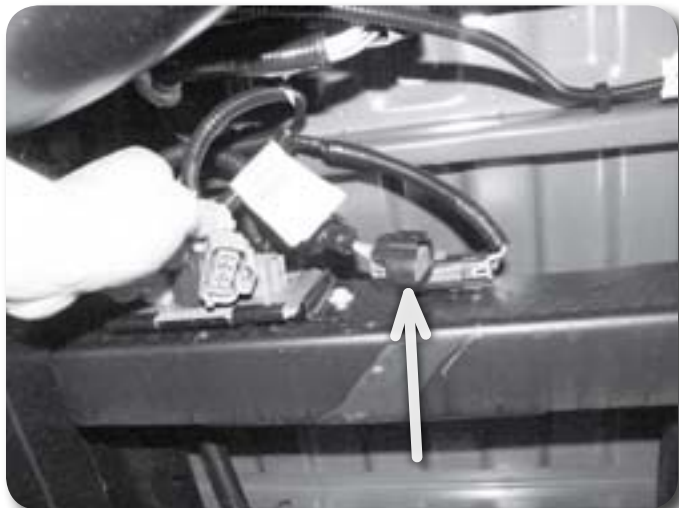

Figure 27
2. Locate the rear wire connector cluster on the rear, driver's side frame crossmember **Figure 27**. Disconnect the license plate light harness and back-up sensor harness (if equipped).